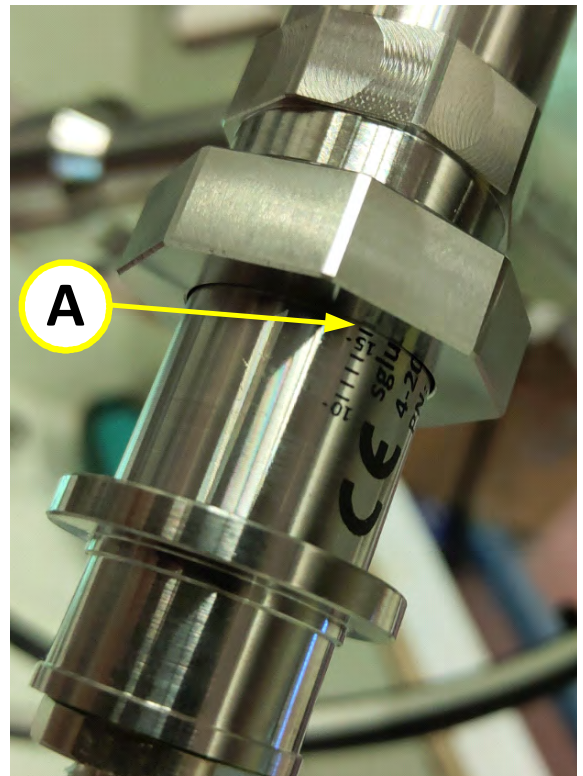

Figure 10-23: Using mm scale as position reference
- Step 1.** Before removing the UVIS sensor, look at the point where the millimeter scale on the sensor touches the securing nut (**A** in Figure 10-23).
- Step 8.** When you return the sensor to its place, make sure to insert it to the same reference point on the mm scale (**A** in Figure 10-23) recorded in **Step 1.** on page 142.